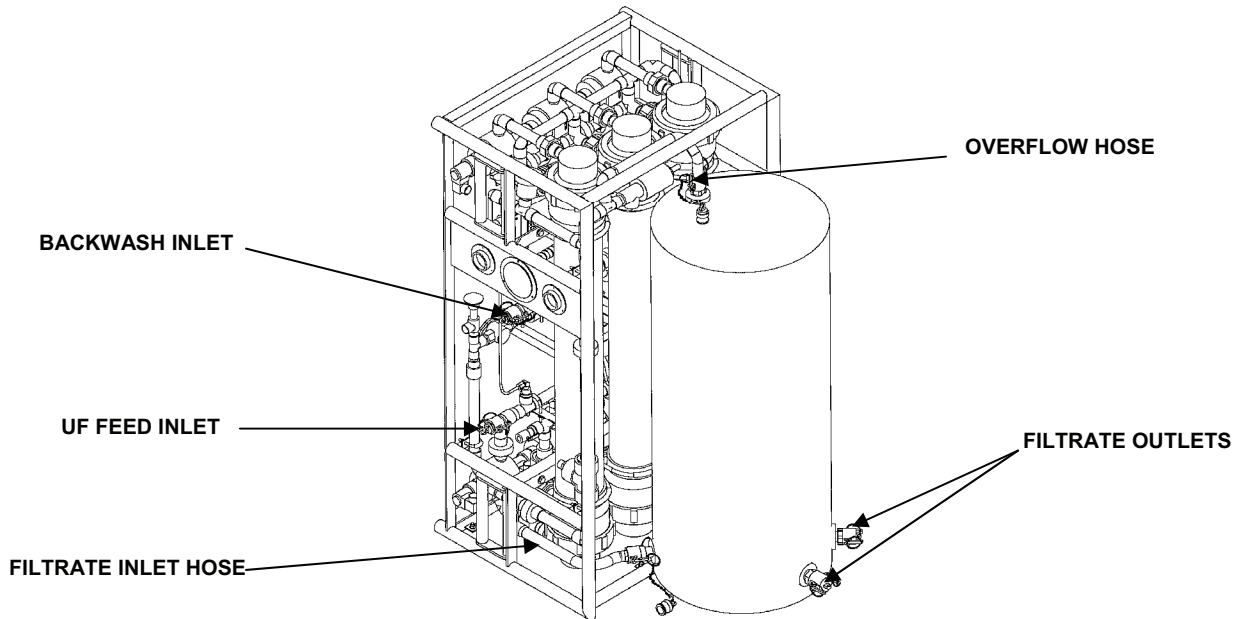

Figure 3. Inlet and Outlet Locations of the Filtrate Tank.
- b. Drain filtrate tank by disconnecting one inlet and two outlet hoses at the base of the filtrate tank. See Figure 3 for location.
- c. Drain the membrane cartridges by opening the seven (7) drain valves on the UF module.
- e. Cap the filtrate tank inlet hose. See Figure 3 for location.
- f. Disconnect filtrate tank overflow hose and plug. See Figure 3.